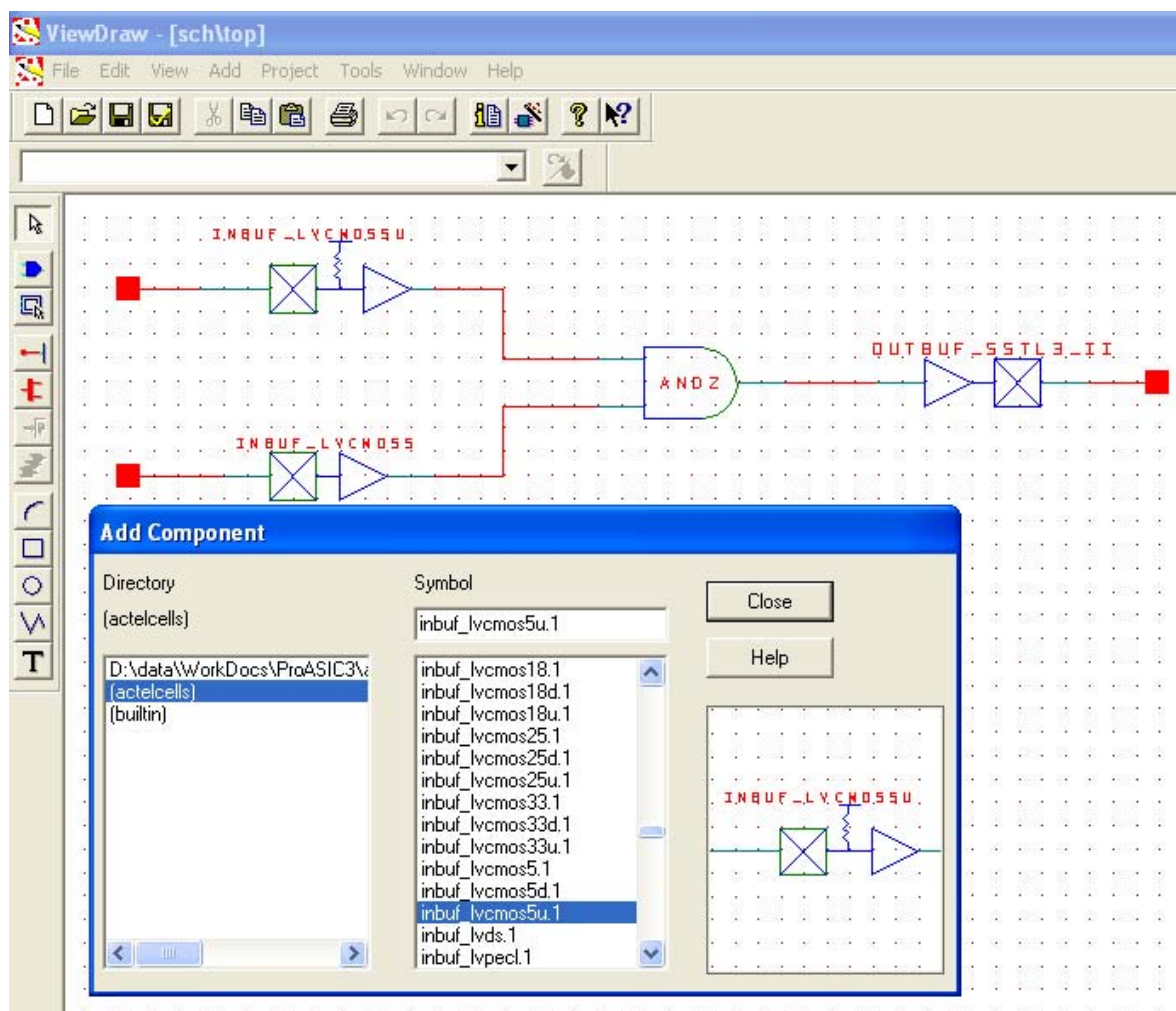

Figure 8-5 • I/O Buffer Schematic Cell Usage
5. Enter a name for the macro. Click **OK**. The core will be generated and saved to the appropriate location within the project files (Figure 8-5 on page 207).
Libero SoC software includes the ViewDraw schematic entry tool. Using ViewDraw, the user can insert any supported I/O buffer cell in the top-level schematic. Figure 8-5 shows a top-level schematic with different I/O buffer cells. When synthesized, the netlist will contain the same I/O macro.